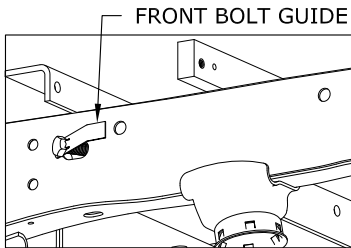
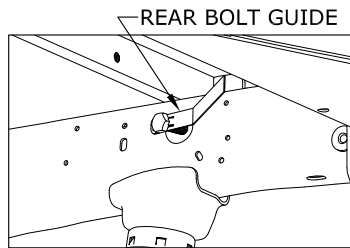

FIGURE C3: View from outside of Driver Side Frame, Bolt installation Step. 1
FIGURE C6: View from inside of Driver Side Frame, Bolt installation Step. 1
- 2. Install the bolt guides.** Insert the front bolt guides (shorter ones) into the frame and guide the threaded end of the bolts out the holes as shown in figures C3 to C5. Insert the rear bolt guides through the large holes on the inside of the frame rails and guide the threaded end of the bolts out of the holes in the frame as shown in figures C6 TO C8.